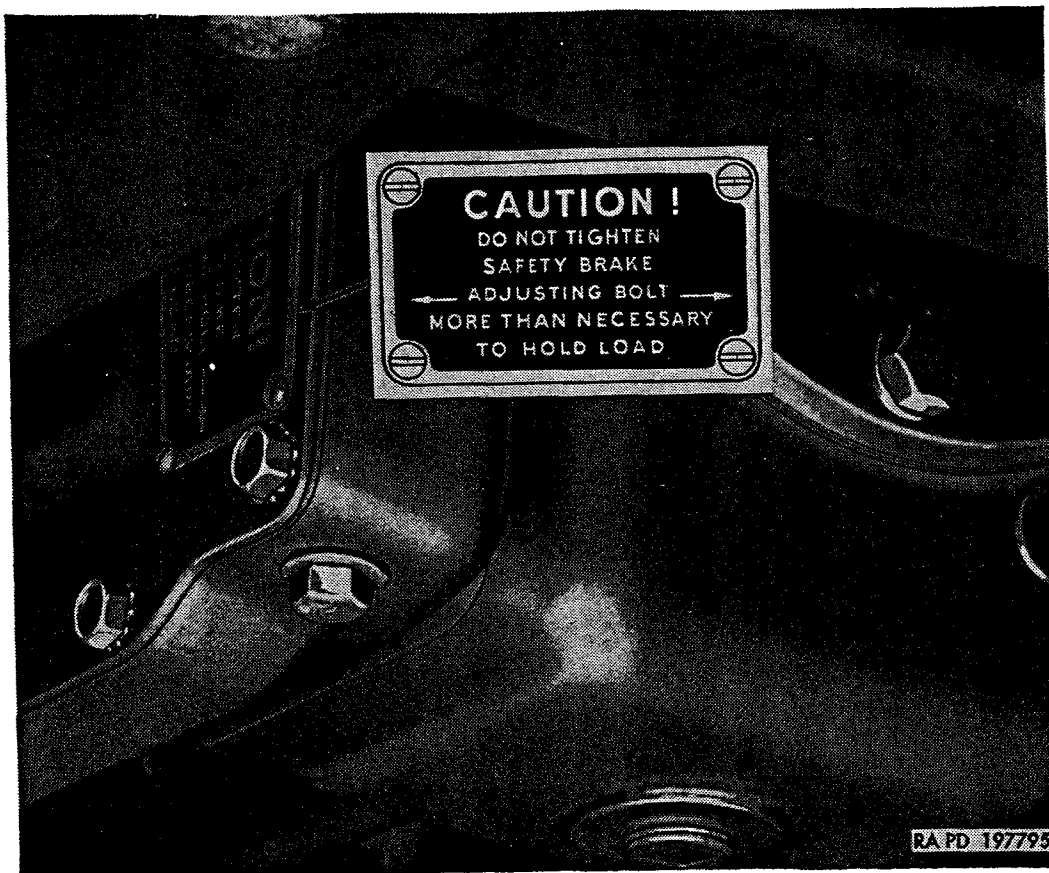
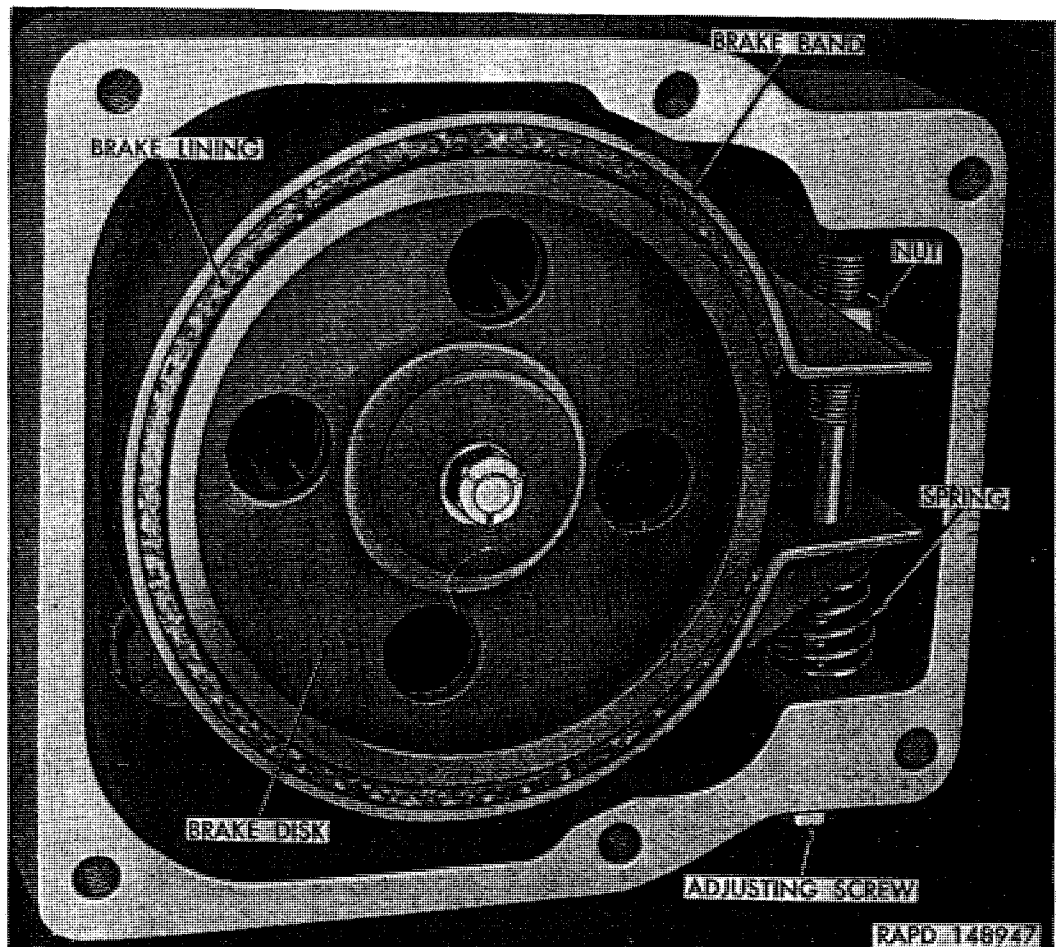

Figure 339. Winch adjustments.
Figure 340. Automatic brake band installed.
clutch control lever is used to engage or disengage the jaw clutch which drives the drum. The drum lock poppet knob is used to lock the drum when winch is not being used. Winch is equipped with two brakes, the drum drag brake and the drive worm automatic brake. The drag brake consists of a flat shoe and lining assembly, spring-loaded to exert a constant drag on end of drum to prevent drum spinning when cable is being pulled off drum. The drive worm automatic brake, which sustains the load when shifting power-take-off gears, consists of an external band type brake which acts on a brake disk (fig. 340) keyed to end of drive worm.
(3) *Automatic brake test.* The most convenient method of testing automatic brake is to tow another vehicle up grade with the winch (par. 49*d* (2)). Tow vehicle up grade part way, release accelerator, and shift power-take-off lever into CENTER-NEUTRAL position. Vehicle being pulled by winch should not roll backward. If winch will not hold vehicle, adjust automatic brake (*c* below).
b. Drag Brake Adjustment (fig. 339). Turn slotted adjusting screw with offset screwdriver. Screw is located at right side of
c. *Automatic Brake Adjustment* (fig. 339). Adjusting bolt head is located on underside of worm housing at left side. Increase tension of brake by turning adjusting bolt clockwise only one-half turn. Test adjustment (a(3) above).
a. *General.* A caution plate (fig. 339) is attached to automatic brake case cover. In event this caution plate is not on the cover, it must be installed in accordance with instructions contained in MWO ORD G749-W9.
- (1) Remove front bumper (par. 285b).
- (2) Remove three cap screws and washers attaching left cable guard to winch assembly.
- (3) Remove six cap screws and lockwashers attaching brake case cover to brake case. Remove cover and discard gasket.
- (4) Remove adjusting screw, washer, and brake spring (fig. 340). Pull brake band from brake disk.
c. Installation (fig. 340).
- (1) Position brake band on disk.
- (2) Place $\frac{7}{16}$ -inch plain washer on the $\frac{3}{8}$ -24 x 4 adjusting cap screw, then install O-ring gasket on cap screw.
- (3) Position brake spring between case and lower leg of brake band, then insert adjusting cap screw through spring and both legs of brake band. Compress upper part of band with a pry bar until screw engages nut.
- (4) Position cover on case, using new gasket. Attach cover with six $\frac{5}{16}$ -18 x $\frac{5}{8}$ cap screws and external-teeth lockwashers. Tighten cap screws.
- (5) Position left cable guard on winch assembly; then install three $\frac{5}{8}$ -11 x $1\frac{1}{4}$ cap screws and washers. Tighten cap screws.
- (6) Install front bumper (par. 285*c*).
- (7) Adjust automatic brake (par. 316*c*).